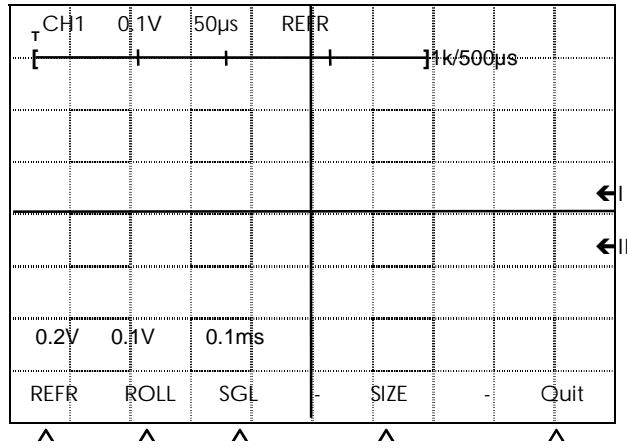

Figure 11 : MODE
4.9.1.1. MODE Modes (key 47) - See figure 11.